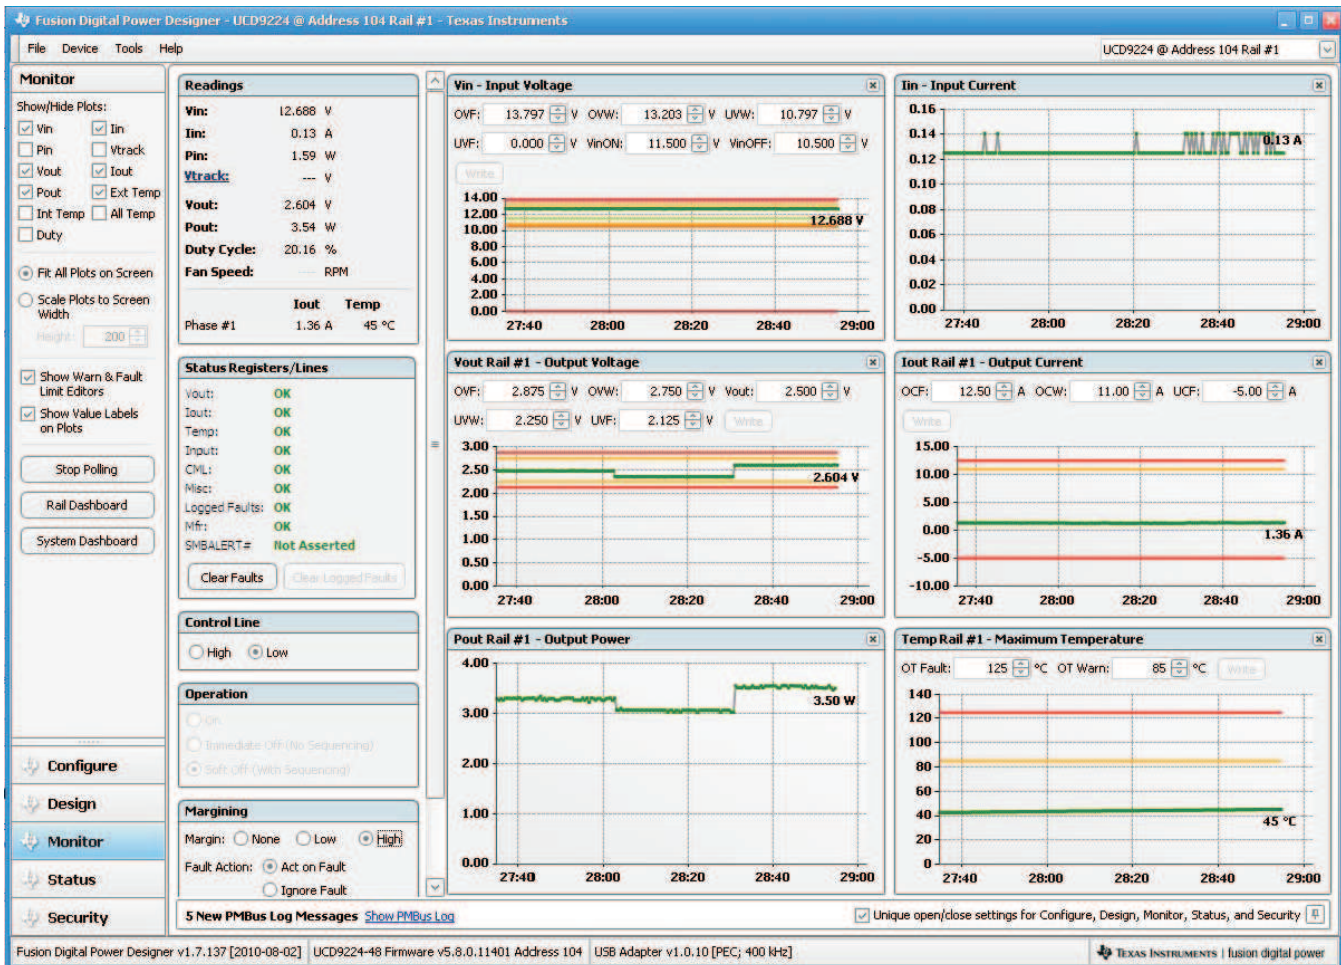

Figure 7. Fusion Digital Power Designer Software – Monitor Page – Rail #1
4. Select the Monitor Page and the window in Figure 7 will be displayed. The operating status of the output voltage and other parameters for Rail #1 can be reviewed from this window, by default Rail #1 is always presented at the Fusion GUI startup. Rail #2 can be monitored by using the dropdown selection in the upper right corner of the monitoring window and selecting UCD9224 @ Address xxx Rail #2. The red horizontal lines that are present in most of the plots indicate the fault limits for this parameter and the yellow lines are the warning levels.
In the V_{OUT} Rail #1 plot shown in Figure 7, the voltage can be seen to shift down slightly and then up slightly when referenced to the earlier section of the plot. This reflects the application of margining to the output voltage with the Margin High setting still visible at the bottom of the column just to the left of the plots.